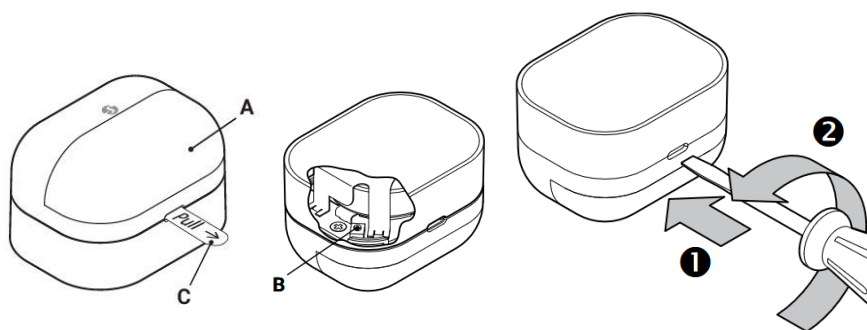

Fig.1
1. Insert a 3 to 5 mm wide flat blade screwdriver in the slot and carefully turn the screwdriver to pop open the back cover of the Device, as shown in Fig. 1.